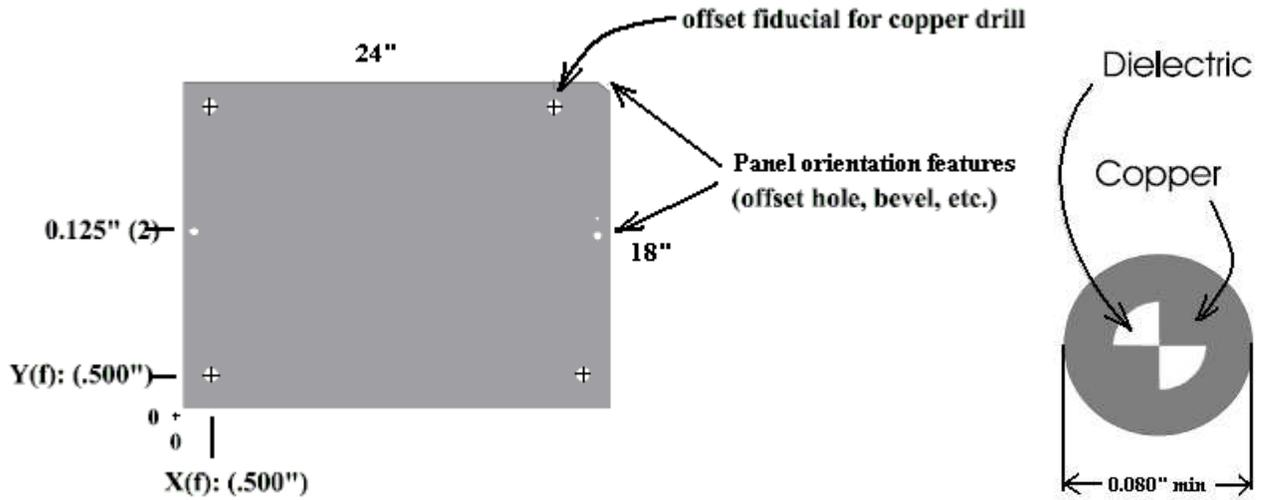

Figure 1: Sample panel layout with orientation features and sample bowtie fiducial
3. For copper layers, we recommend fiducials with a diameter of at least 0.080". This size should prevent the fiducials from flaking off in any skiving process. See Figure 1 for an example.
4. We need four point alignment, with one fiducial offset or out of rectangular formation (to ensure proper alignment) by at least 0.050". When panel is viewed from the opposite side, a fiducial should shift position. See Figure 1 for an example.